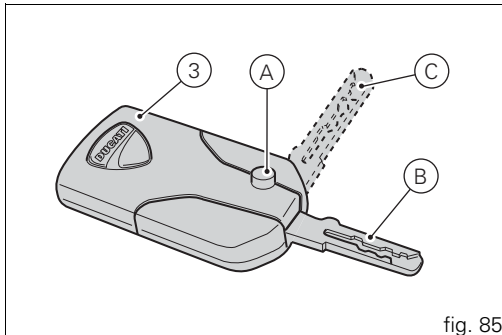

fig. 85
The key (3) metal part is hidden inside the key: press button (A, fig. 85) to fully open the metal part, i.e. position (B, fig. 85). Hold depressed button (A, fig. 85) you to move the metal part and set it to the middle position (C, fig. 64); once in place, release button to lock.
With the vehicle in Key-On and “engine off”, if the presence of the active key (3, fig. 85) is not detected for thirty consecutive seconds, the motorcycle will turn off automatically without any action by the rider.